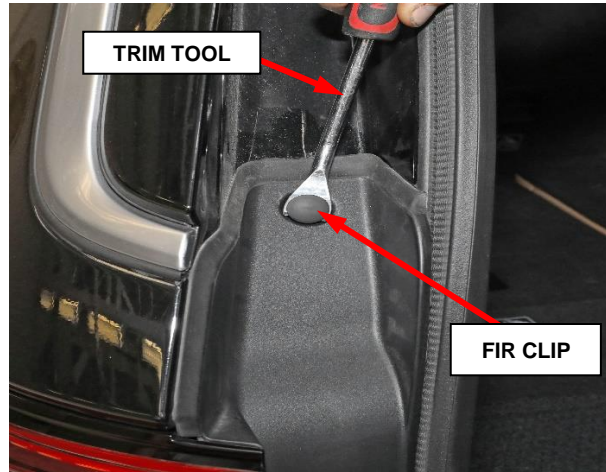

Figure 6 – Fir Clip
1. Using a trim tool, remove the fir clip on taillamp trim (Figure 6).
- Install the taillamp trim and fir clip (Figure 6).